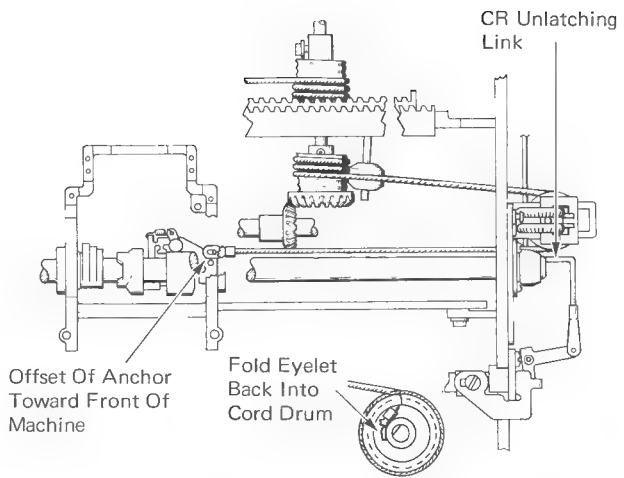

Figure 2
8. Connect the escapement cord to the escapement cord drum and wrap approximately 1 turn (two turns for 7X3) of the cord around the drum (Figure 2).